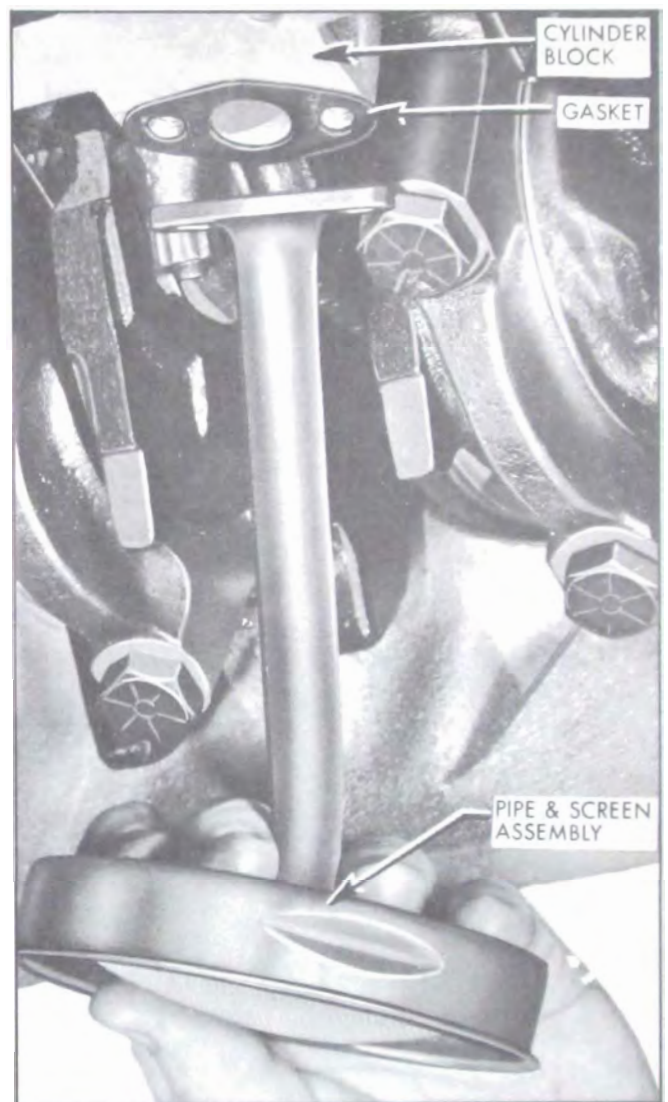

Figure 2-68—Installation of Oil Pump Pipe and Screen Assembly
11. Remove oil pan bolts and lower oil pan enough to remove oil pump pipe and screen to cylinder block bolts. See Figure 2-68.